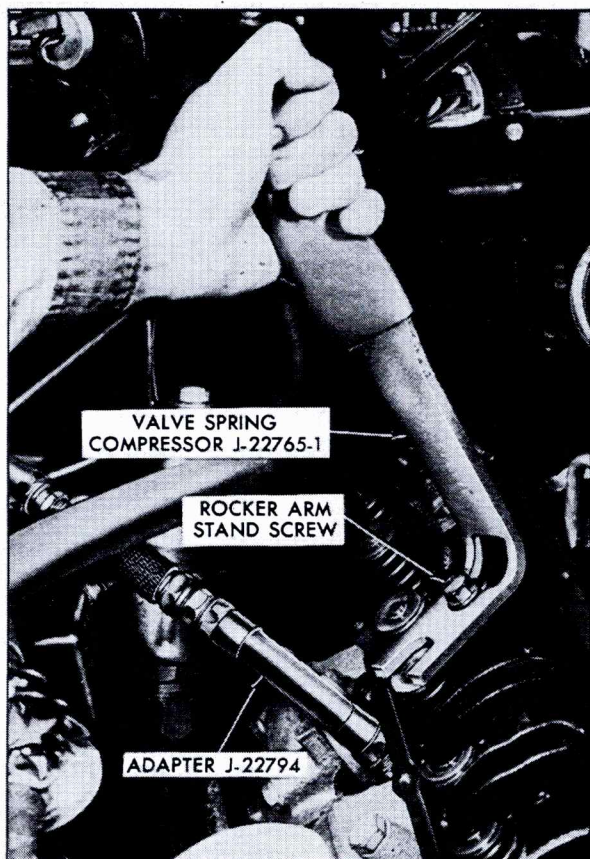

Fig. 6-112 Compressing Valve Spring
12. Install Adapter J-22794 in spark plug hole, Fig. 6-112.
15. Pass Valve Spring Compressor, J-22765-1, over rocker arm stand screw, Fig. 6-112.
2. Using Valve Spring Compressor, J-22765-1, compress valve spring and install locks, Fig. 6-112.